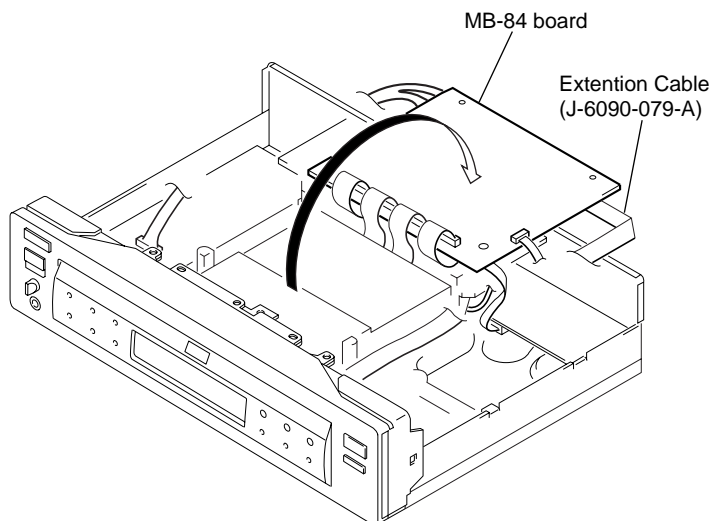

Fig. 3
- 3) Set the MB-84 board as shown in Fig. 3.